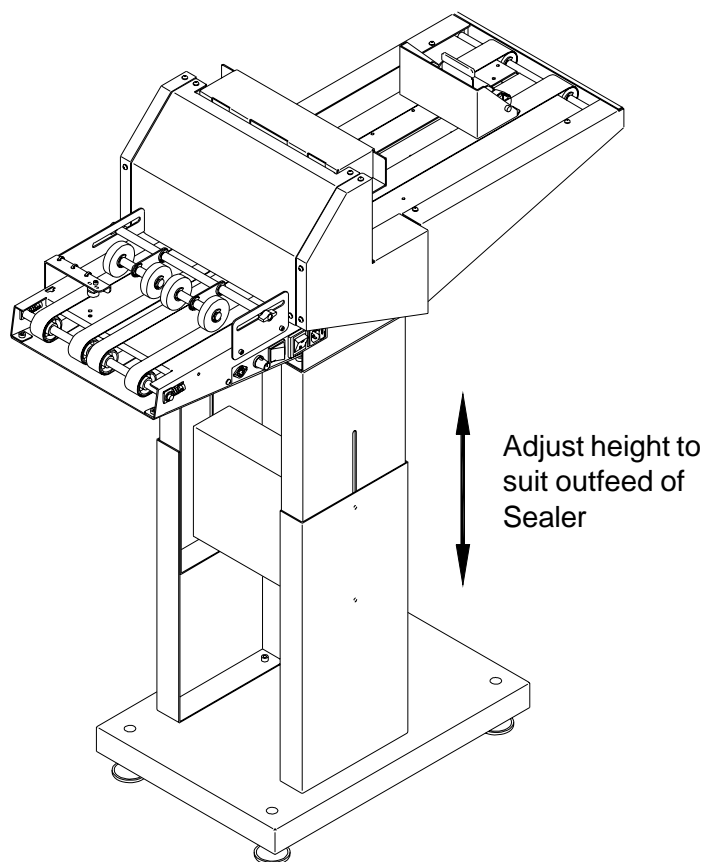

FIG. 2
3. Adjust the height of the High Capacity Conveyor (if fitted) so that the sealed documents feed smoothly onto it (see Fig. 2 overleaf).